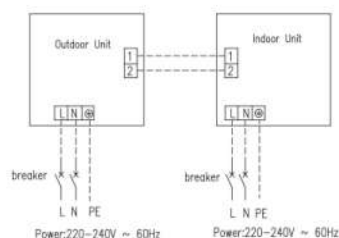

Fig. 4.23
- ①. The power cord and the wire of the fresh air valve are high-voltage, while the communication cord and connection wire of the wired controller are low-voltage. They should run separately against electromagnetic interference.
- ②. The high-voltage and low-voltage lines should pass through the rubber rings at different electric box covers.
- ③. Do not bundle the connection wire of the wired controller and the communication cord together, or arrange them in parallel, otherwise improper operation would occur.
- ④. The high-voltage and low-voltage lines should be fixed separately and securely, with internal big clamps for the former and small clamps for the latter.
⑤.	Tighten the indoor/outdoor connection cord and power cord respectively on the terminal boards with screws. Faulty connection may cause a fire.
⑥.	If the indoor unit connection cord (to the outdoor unit) and power supply are wired incorrectly, the air conditioner may be damaged.
⑦.	Connect the indoor unit connection cord properly based on the corresponding marks as shown in Fig. 4.23.
⑧.	Ground both the indoor and outdoor units by attaching a ground wire.
⑨.	Unit shall be grounded in compliance with the applicable local and national codes.